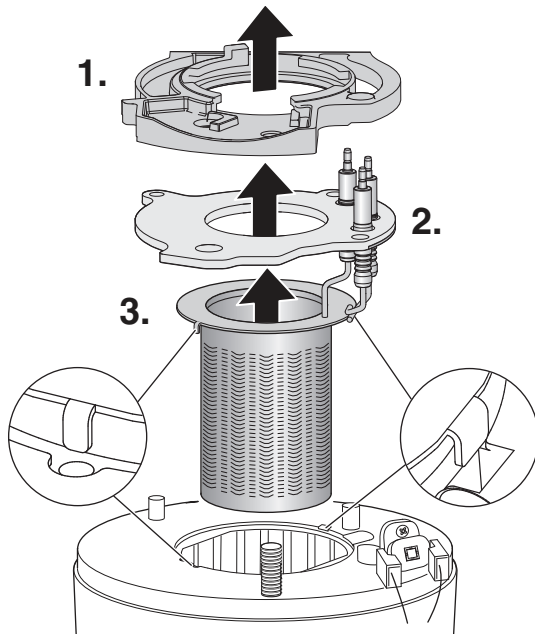

Fig. 80 Electrode assembly and burner
- ▶ Refer to figure 80 and disconnect spark electrodes and flame sensor connection.
- ▶ Ensure that burner tabs, as shown in figure 80, fit correctly their respective locations.